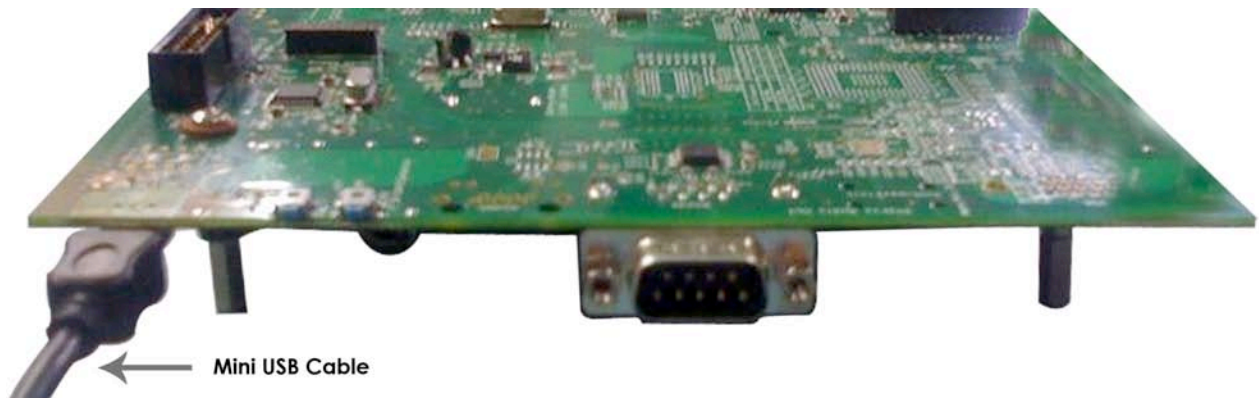

Figure 4 OpenRD-Base - USB, GbE0, and Power Supply
1. Connect CAT6/CAT5 cable to GbE 0 port of the system (Figure 4). Make sure the other end of cable is connected to Ethernet hub/switch/router.
2. Connect USB keyboard and USB mouse to USB ports of the system. Also connect the power supply cable. (Figure 4)